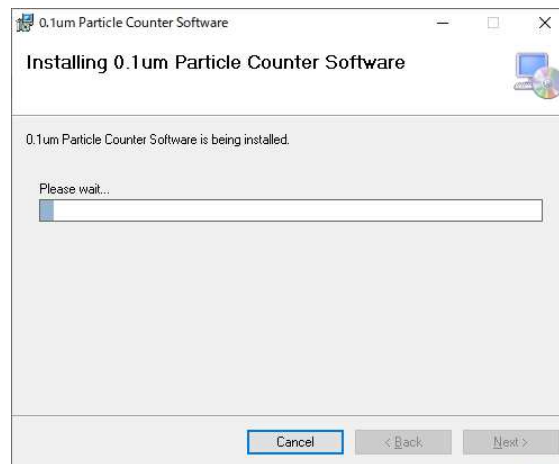

Figure 2-4 Installation progress Dialog Box
- 4) Click the **Next** button to display the dialog box as shown in Figure 2-4.